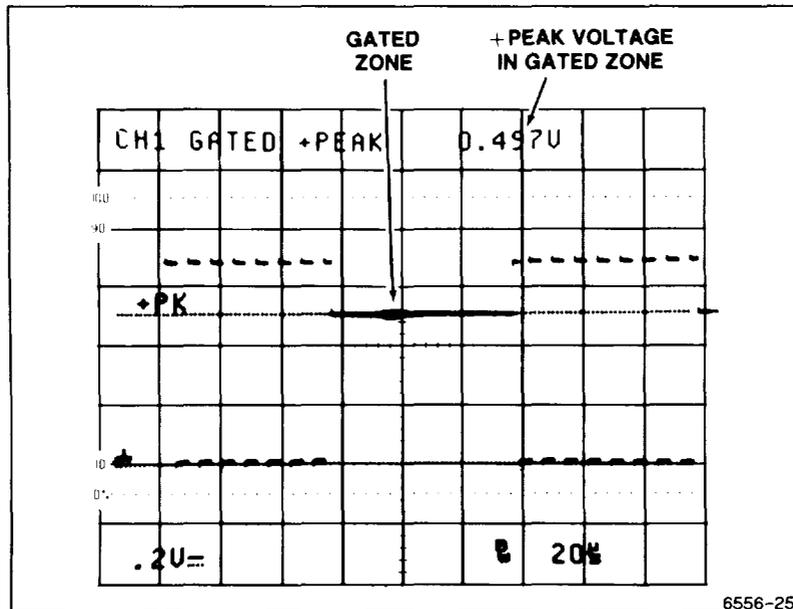

Figure 5-2. Gated voltage measurement.
3. Use the ← OR DELAY control to position the intensified zone to the area of interest on the waveform to be tracked. (See Figure 5-2.)